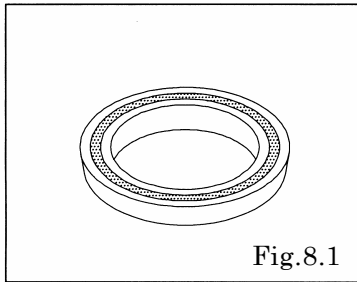

Fig.8.1
- Apply plenty of lubricant into the groove (V) of the packing. [Fig.8.1]